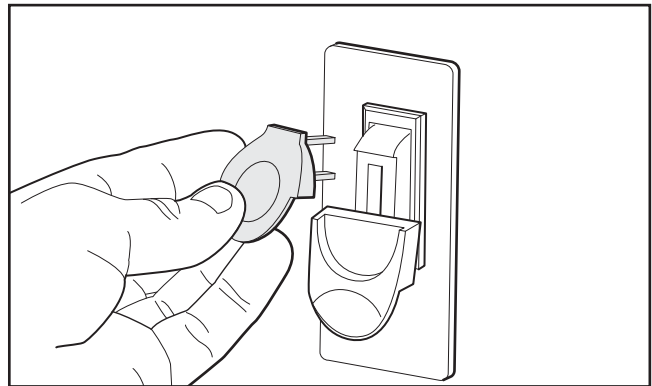

Figure 15. Removing switch key from paddle switch.
7. Remove the switch disabling key, as shown in **Figure 15**.